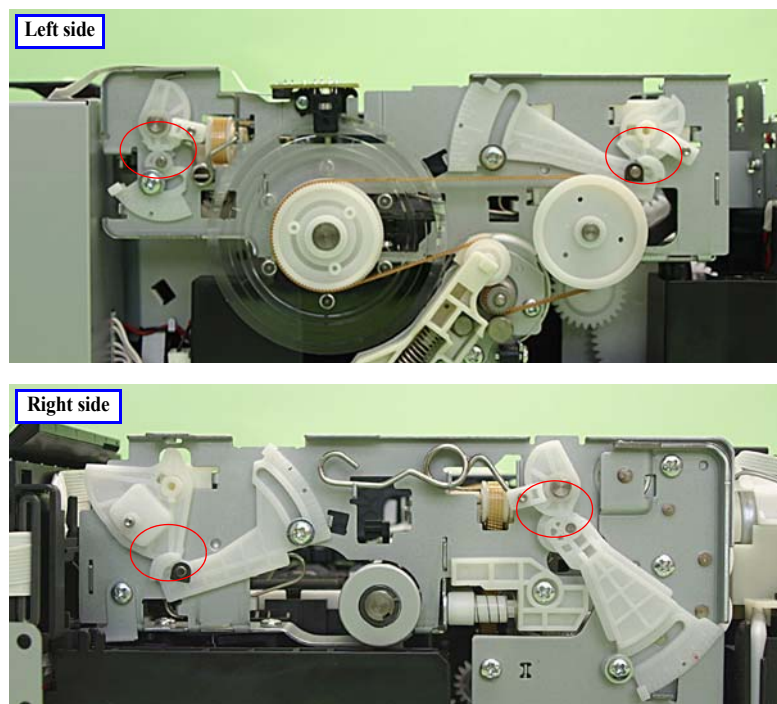

Figure 5-36. PG position when adjusting
- Epson Artisan 800/Epson Stylus Photo PX800FW/TX800FW/ Epson Artisan 700/Epson Stylus Photo PX700W/TX700W have five PG pre-settings using the APG mechanism. Use the minimum PG setting (PG-: 1.2mm) to carry out this adjustment. See Figure 5-36.
- Check that the PG cams; located on both the left side and the right side of the Carriage Shaft and the CR guide plate, are in the PG-position. (Fig. 5-36)
Epson Artisan 800/Epson Stylus Photo PX800FW/TX800FW/Epson Artisan 700/Epson Stylus Photo PX700W/TX700W have five PG pre-settings using the APG mechanism. Use the minimum PG setting (PG-: 1.2mm) to carry out this checking. See Figure 5-36.